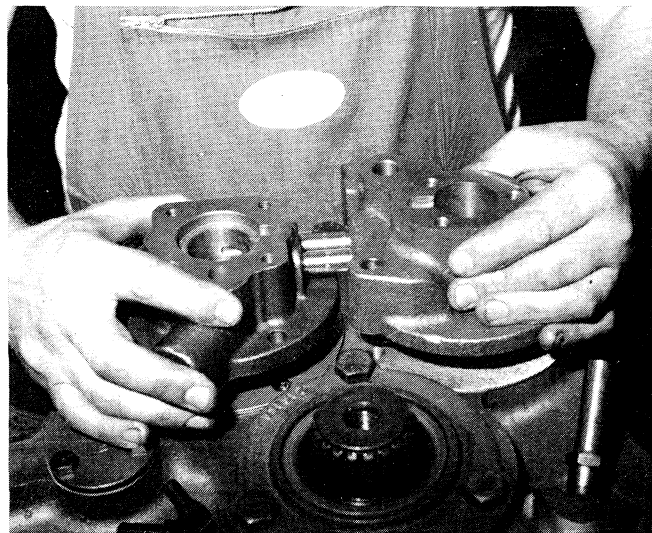

Figure 6-6. Removing or Installing Pump Mount and Valve Body together.
14. Loosen the hex-head capscrews (Figure 12-1, 18), and nut (19), and remove selector lever (20). Remove the three hex-head capscrews (34) and (30) that secure the selector valve assembly (28) to the rear cover (11). Simultaneously, remove the pump mount and selector valve assembly from the rear cover. See Figure 6-6. Remove the two jumper tubes (Figure 12-1, 36), and four O-ring seals (35) from between the pump mount and selector valve assembly. Remove the pump mount shims (37) and O-ring (48), and valve body shims (16) from the rear cover.